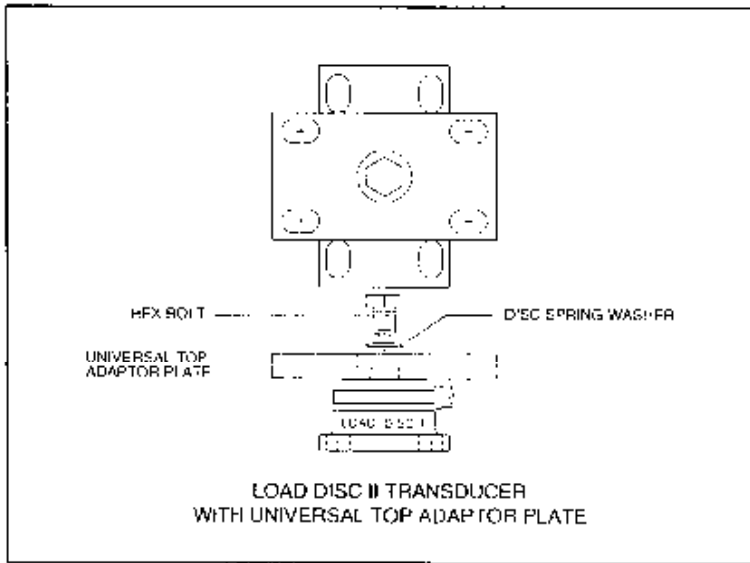

Figure 2-4. Load Disc II Transducer with Universal Top Adaptor Plate Hardware Kit.
This Load Disc II transducer configuration has a hardware kit that consists of a Universal Top Adaptor Plate, a hex head screw, and a disk spring washer. The Universal Top Adaptor Plate is secured to the Load Disc II transducer using the screw and washer. (For washer orientation and required torque on the screw, refer to Appendix E.) The Adaptor Plate then bolts to a vessel gusset or leg that has a flat plate welded to it (Figure 2-4). The customer must supply the hardware to secure the Universal Adaptor Plate to the leg or gusset. Follow this procedure to install the Load Disc II transducer.
6. Bolt the Load Disc II transducer assembly to the leg or gusset using 3/8"-24 UNF\*, 7/16"-20 UNF\*\*, or 3/4"-10 UNC\*\*\* bolts (ASTM-A325 or stronger), lock washers, flat washers, and nuts. Orient the bolts so that the heads face down and the nuts and washers are on top (Figure 2-4). Follow Steps 1 through 6 to install all of the transducers to the vessel legs or gussets.
Kistler-Morse recommends using 3/8"-24 UNF\*, 7/16"-20 UNF\*\*, or 3/4"-10 UNC\*\*\* anchor bolts that are grade ASTM-A325 or stronger. The threaded length of the anchor bolts should provide enough length for the thickness of the base plate, the thickness of the leveling nut and flat washer under the base plate, and the thickness of the lock washer, flat washer, and nut on top of the base plate (Figure 2-4).